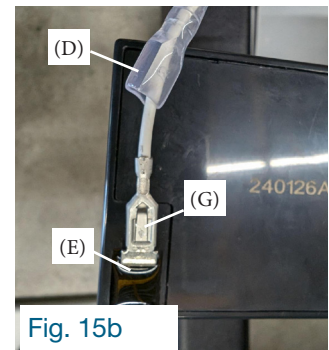

Fig. 15b
5. For each battery, there are (2) wires connected. For each of these wires, slide the protective sleeve (D) over the wire to release the connector (G) from its protection, then disconnect the connector (G) from the battery terminal (E) by pressing lightly under it (fig. 15b).
6. Remove the (2) expired batteries and retain the wires for connecting the new batteries.